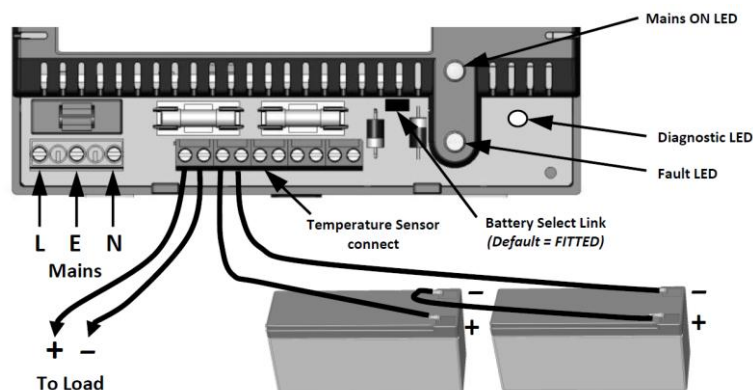

Figure 3 - Connections
- 5) Connect the load (output) wiring as shown in Figure 3. Cable tie to saddle provided (adjacent to exit hole).
- 9) For 17/18 Ah batteries fit the link to the Battery select pins as indicated, for 7, 3.2 or 2.1 Ah batteries remove link, as shown in Figure 3.
- 11) Connect the two 12 V standby batteries in series using the single cable provided. Connect the negative of one battery to the positive of the other. See Figure 3.